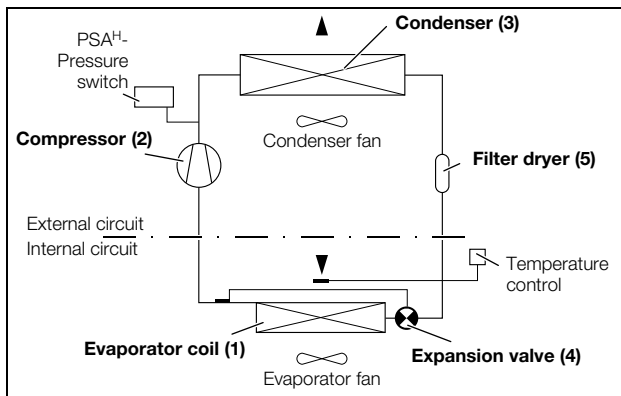

Fig. 3: Cooling circuit
The cooling unit (compression refrigeration system) comprises four main components (see fig. 3): the evaporator (1), the refrigerant compressor (2), the condenser (3), and the control or expansion valve (4), which are connected by suitable pipework.